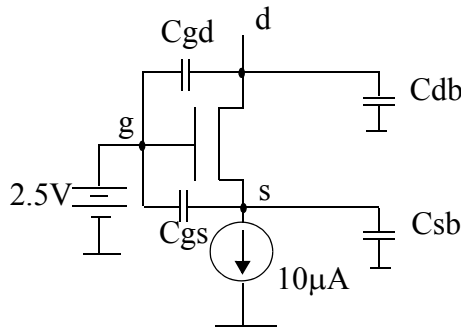

Figure 0.16 Device going through different operation regions over time
19. [M, None, 3.3.3] For the NMOS transistor in Figure 0.16, **sketch the voltages** at the source and at the drain as a function of time. Initially, both source and drain are at +2.5 volts. Note that the drain is open circuited. The $10 \mu A$ current source is turned on at $t=0$. Device parameters: $W/L_{eff} = 125 \mu / 0.25 \mu$; $\mu C_{ox} = 100 \mu A/V^2$; $C_{ox} = 6 fF/\mu^2$; $C_{OL}(\text{per width}) = 0.3 fF/\mu$; $C_{sb} = 100 fF$; $C_{db} = 100 fF$; $V_{DSAT} = 1V$.